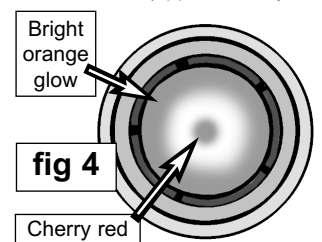

fig 4
- 5.1.4. a) **NORMAL** CHERRY RED IN THE MIDDLE PROGRESSING TO AN ORANGE ON OUTSIDE RIM OF DOME. ( See fig.4. )